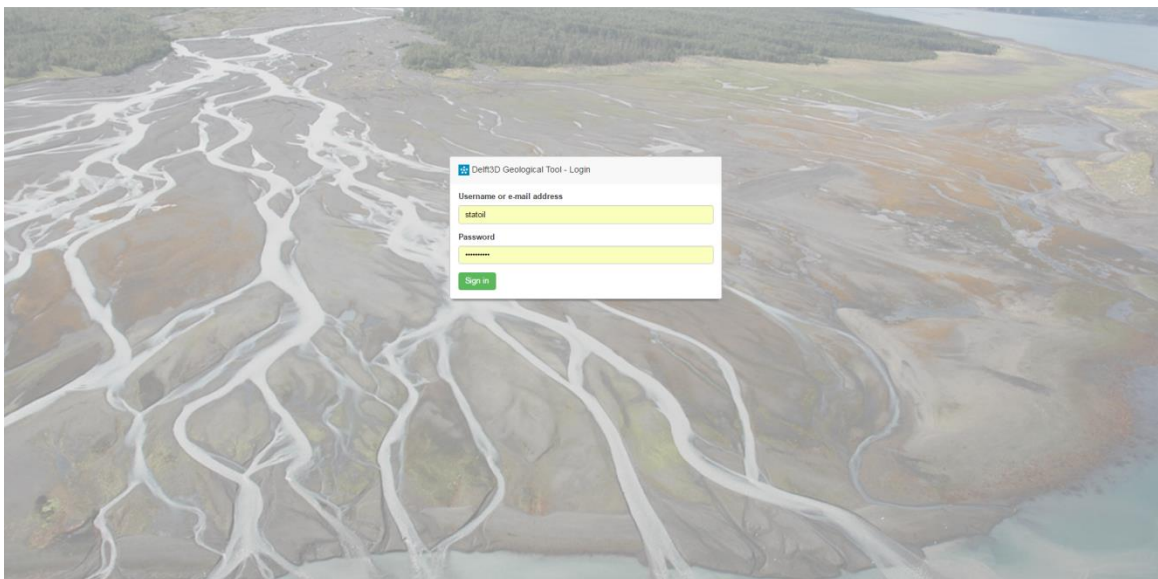

Figure 2.4 The Delft3D-GT login screen
2. Login with your user credentials (Figure 2.4)